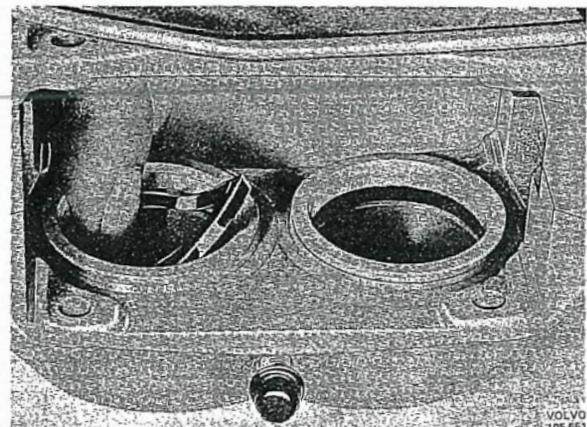

Fig. 5-22. Fitting sealing ring
2. Fit new sealing ring in the cylinders, see Fig. 5-22.